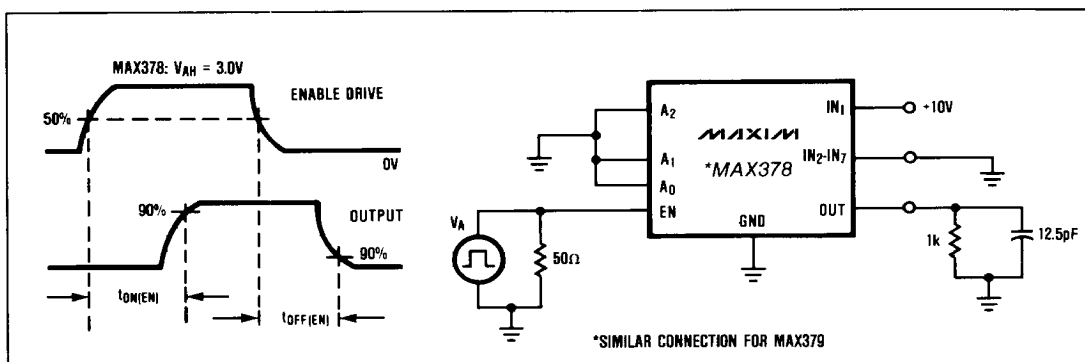

Figure 3. Enable Delay ($t_{ON(EN)}$, $t_{OFF(EN)}$)
| Enable Delay (ON) | t _{ON(EN)} | (Figure 3) | +25°C Full | | 400 | 750 1000 | | 400 | 1000 1500 | ns |
| Enable Delay (OFF) | t _{OFF(EN)} | (Figure 3) | +25°C Full | | 300 | 500 1000 | | 300 | 1000 | ns |